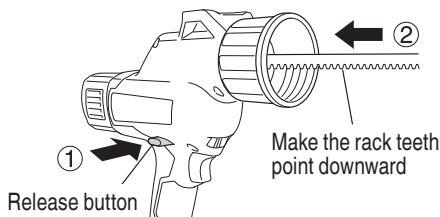

Fig. 13
- (1) Attach the piston that corresponds to the sealing material to be used by screwing it into the rack.
- (2) While pressing the release button to release the lock, insert the rack from the front side of the main body. Insert it so that the teeth of the rack are facing downwards. (Fig. 13)